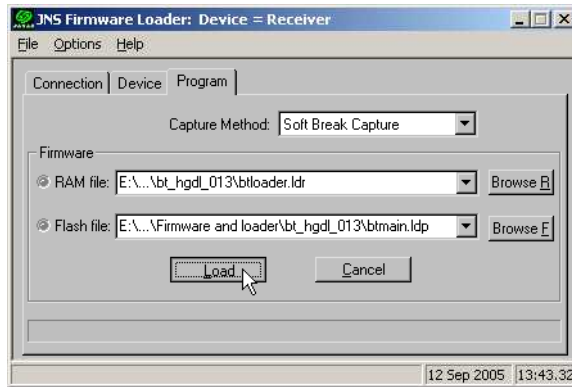

Figure 4-20. Program Tab Settings
2. Click the **Program** tab and set the *Capture Method* to "Soft Break Capture" (recommended) (Figure 4-20 on page 4-27).
3. Browse for and select the Bluetooth module's RAM file and Flash file (Figure 4-20 on page 4-27).